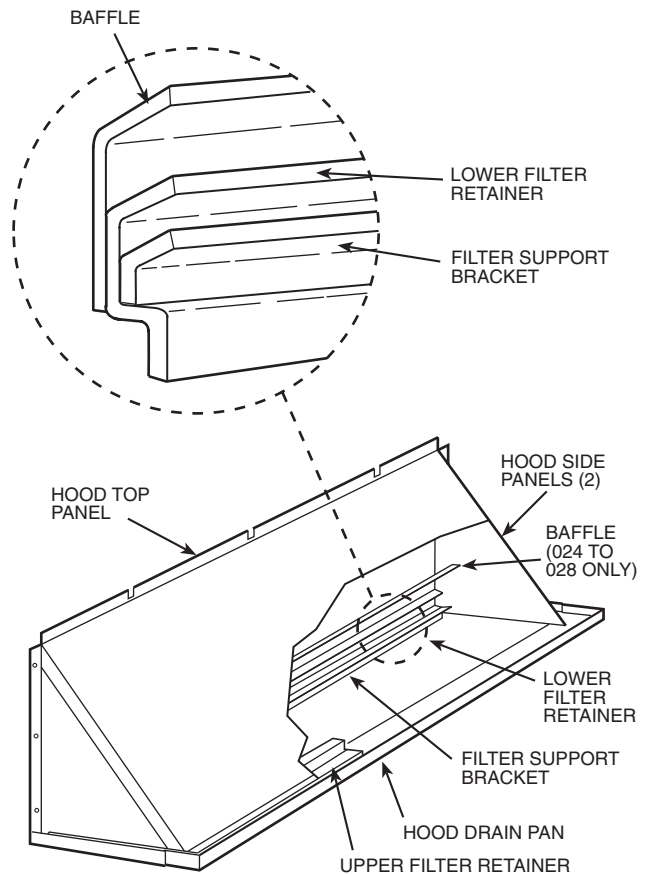

Fig. 20 — Outdoor-Air Hood Details
2. Assemble hood top panel, side panels, upper filter retainer, and drain pan (see Fig. 20).
3. Secure lower filter retainer and support bracket to unit. See Fig. 20. Leave screws loose on size 024 and 028 units.